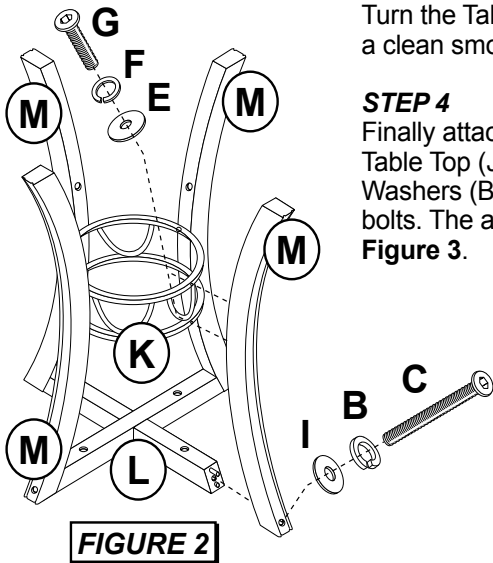

FIGURE 2
Next attach the Cross Brace (K) to the Stool Back (I) by using 2 Metal Washers (F), 2 Spring Washers (D) and 2 Allen Bolts (C). See **Figure 2**.
Slide the Metal Ring (K) into place in between the three Legs (M) and attach them to each other using 2 Allen Bolts (G), 2 Spring Washers (F) and 2 Flat Washers (E). Then attach the remaining Leg (M) to the Leg Brace (L) and the Metal Ring (K) in the same fashion as the previous legs. See **Figure 2**. Tighten all bolts with the Allen Wrenches (D & H) provided.